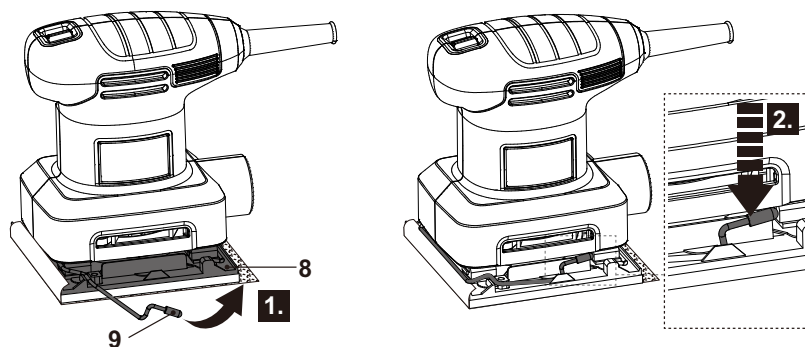

Fig. 6
- > Pull the clamp lever (9) upwards along the base plate (8) and then press it down to engage it (Fig. 6).